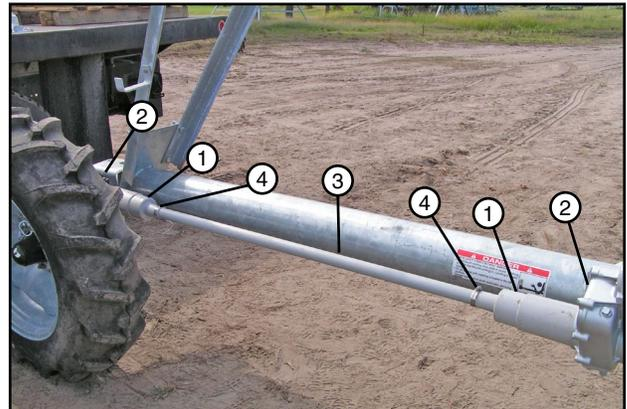

Figure 39-2 1. U-Joint Shield
8. Slide the U-joint shield over the U-joint and position approximately 1/4 in away from touching the gearbox. Secure the U-joint shield to the drive shaft shield with a clamp. See figure 39-2.